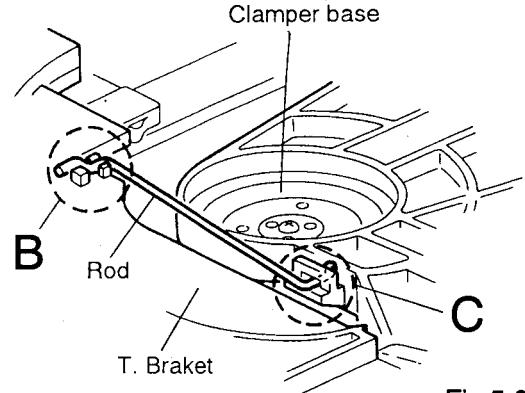

Fig.5-36
■ Removing the CD tray assembly (See Figs. 5-36~5-38)
4. From the T. bracket section "B" and clamper base section "C", remove both of the edges fixing the rod (See Figs. 5-36 and 5-37).